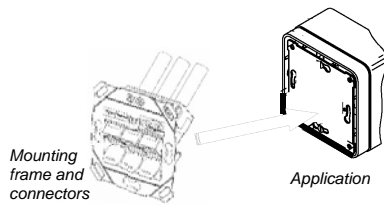

Fig. 6
5.3 Place and fix the mounting frame into the application (see 3.2 - Applications); choosing the adequate holes, according to each application holes (fig. 6).